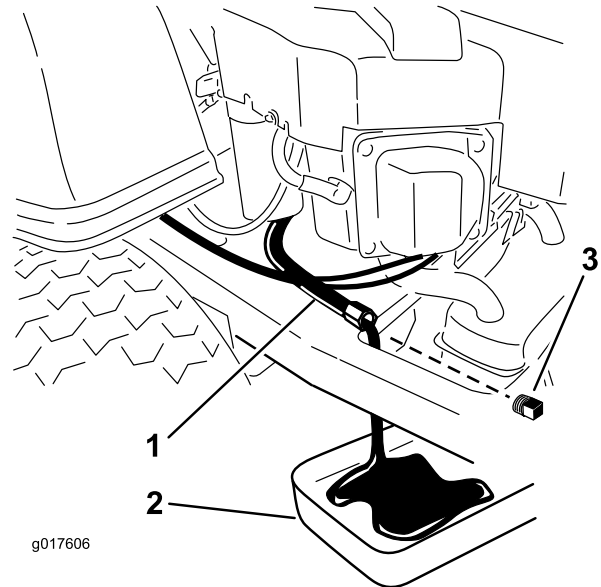

Figure 29
- Locate the oil drain hose on the left side of the engine. The drain plug is attached to the drain hose (Figure 29). Clean the area around the oil drain plug and the oil drain hose.
- Place a pan underneath machine directly below the oil drain hose as shown in Figure 29.
- Using two wrenches (one to hold the oil drain hose and one to loosen the plug), remove the oil drain plug (Figure 29).
12. When oil has drained completely, install the oil drain plug. Tighten the plug to 125 in-lb (14 N-m) torque. Wipe up any excess oil (Figure 29).